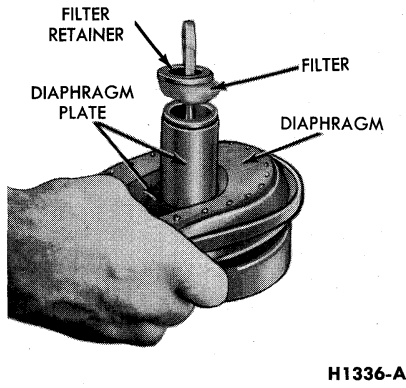

FIG. 18—Removing Diaphragm
8. Remove the diaphragm from the diaphragm plate as shown in Fig. 18.
5. Tuck the filter into place in the plate hub. Press the filter retainer onto the hub being careful not to chip or damage the plastic (Fig. 18).